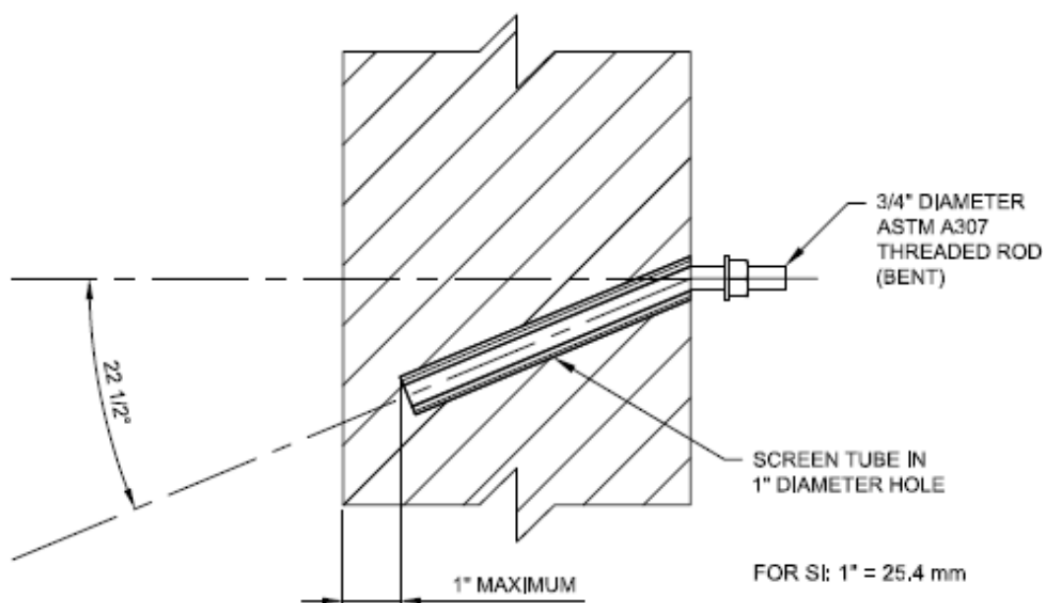

FIGURE 2—HILTI HIT-HY 270 ADHESIVE 22 $\frac{1}{2}$ ° COMBINATION ANCHOR (CONFIGURATION B)
4.1.2 Configuration B, Bent Threaded Rods in Shear and Tension (22¹/₂-degree Combination Anchor): Configuration B is the anchor assembly resisting a combination of tension and shear loads. Configuration B consists of a ³/₄-inch-diameter (19.1 mm), ASTM A307 threaded rod prebent at an angle of 22¹/₂ degrees and a 1-inch-diameter-by-13-inch-long (26 mm by 325 mm) plastic-mesh screen tube obtained by combining 1-inch-diameter-by-8-inch-long (26 mm by 200 mm) and 1-inch-diameter-by-5-inch-long (26 mm by 125 mm) plastic-mesh screen tubes (HIT-SC 26x200 and HIT-SC 26x125). The anchor must be embedded a minimum of 13 inches (330 mm) at a downward angle of 22¹/₂ degrees to the horizontal. Figure 2 shows details of an installed shear-and tension-resisting assembly.
4.3.3 Configuration B: Holes for installation of assemblies using prebent threaded rods intended to resist shear and tension must be drilled at a $22\frac{1}{2}$ -degree angle to within 1 inch (25.4 mm) of the opposing surface. The holes must be cleaned with a wire brush and compressed air to remove debris. The Hilti HIT-HY 270 adhesive must be injected into the supplied plastic mesh screen tube that is then inserted into the predrilled hole. The prebent threaded rod must be inserted and pushed into the screen tube in a rotating manner to force the adhesive into the hole. Figure 2 illustrates an anchor installed in this configuration. Figure 3 illustrates the MPII, also referred to as IFU.
CONFIGURATION B – 22 $\frac{1}{2}$ ° COMBINATION ANCHOR (FIGURE 2)